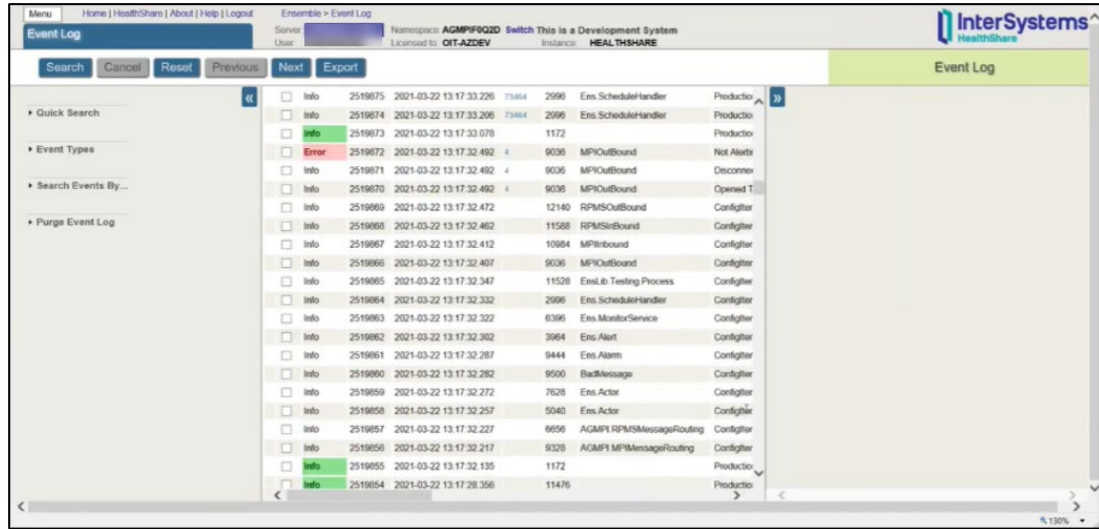
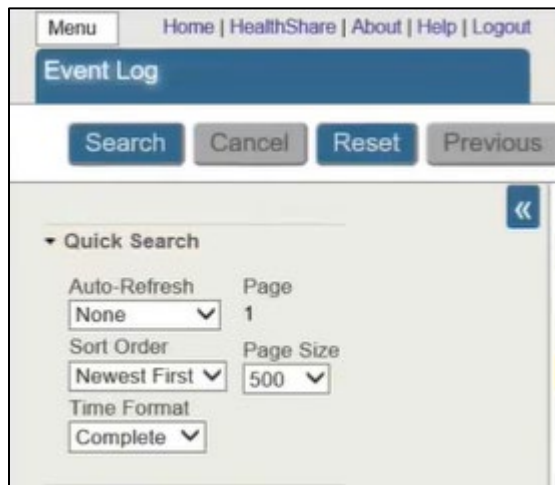

Figure 6-2: Events Log
Figure 6-3: Quick Search parameters
2. The Event Log can be searched in three ways: **Quick Search**, **Event Types**, and **Search Events By...** (Figure 6-2).
3. Click on **Quick Search** (Figure 6-2). The search details are visible and parameters for the search can be chosen by clicking on the drop-down menus (Figure 6-3).
4. Click on **Event Types** (Figure 6-2).